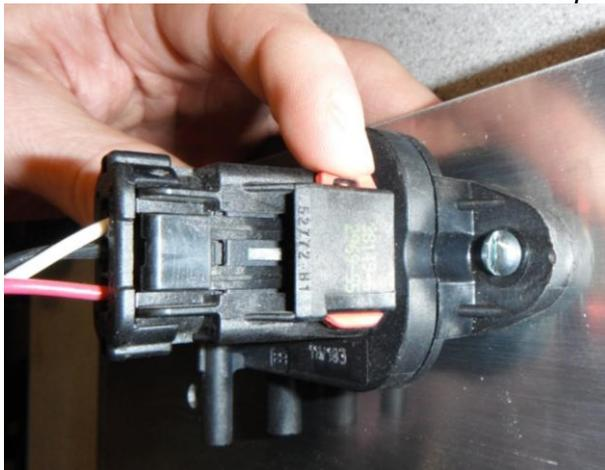
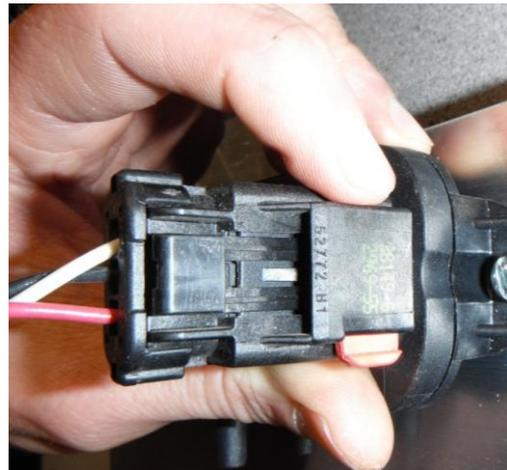

Figure12: DPT Locked Position
Figure13: DPT Unlocked Position
- b. *Reach behind the ECU mount plate on the top and locate the red lock mechanism. Push downward to disengage the lock. Figure12 and Figure13 show the locked and unlocked positions.*